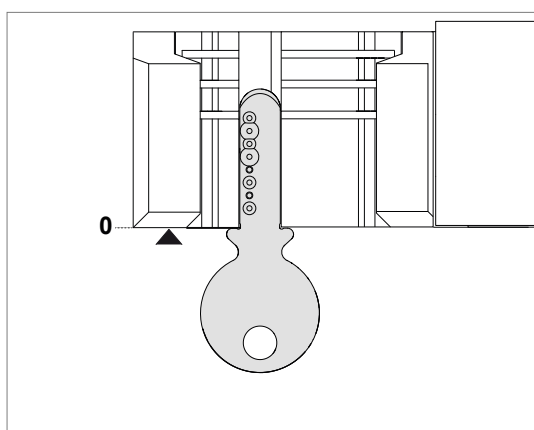
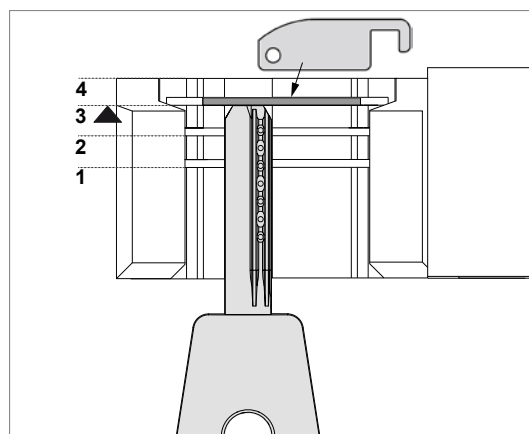

Fig. 17 - SHOULDER STOP
Fig. 18 - TIP STOP
- clamp stop (Fig. 17 e Fig. 18).
The former (with head stops) are positioned up against the clamp (Stop "0") (Fig. 17) and the others (tip stops) are positioned referring to one of the grooves (1-2-3) as shown on the machine display. Use the bar provided for this operation (Fig. 18).